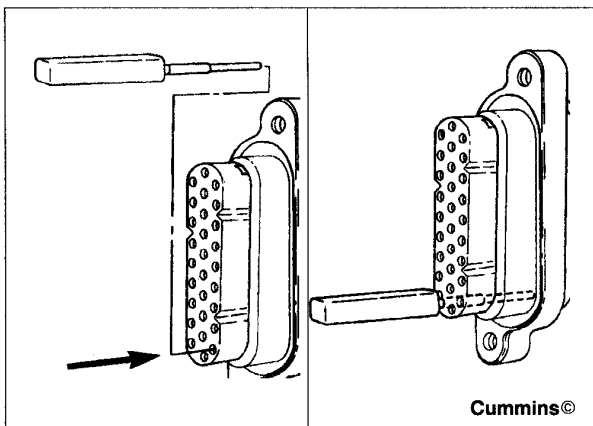

Figure 82 Push Tool to Bottom of Cavity
3. Remove the number one terminal connection pin from the damaged AMP connector. Insert terminal removal tool, Cummins Part No. 3822759, in the terminal about 0.7 in. (18 mm). Push the tool to the bottom of the cavity (Figure 82).